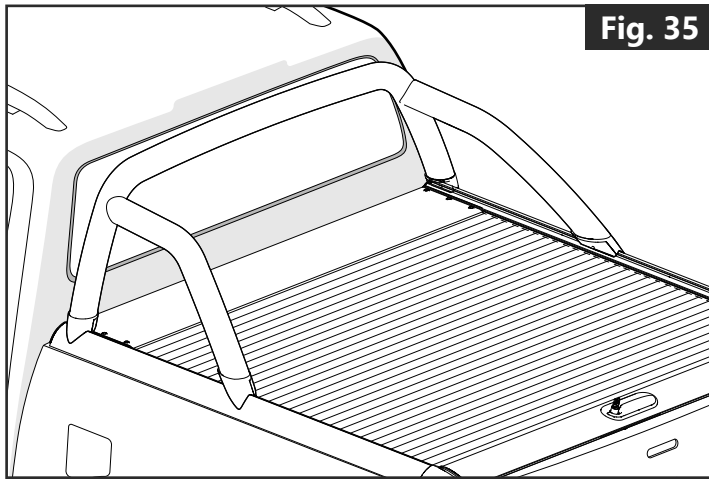

Fig. 35
- Available in 2 versions; with and without brakelight. (**Fig. 35+36**)